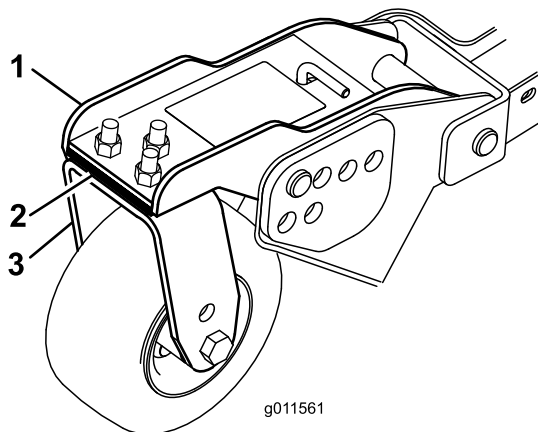

Figure 30
Rotate the blade of each spindle until the ends face forward and backward. Measure from the floor to the front tip of the cutting edge. Adjust the 3 mm (1/8 inch) shims on front caster arm(s) to match the height-of-cut decal (Figure 30). For the outside blade spindle only, refer to Adjusting the Mower-Deck Pitch \(page 71\).
- If the inside edge of the side mower deck is too high relative to the outside edge of the front mower deck, remove a 3 mm (1/8 inch) shim from the bottom of the front, inside caster arm on the side mower deck (Figure 30).